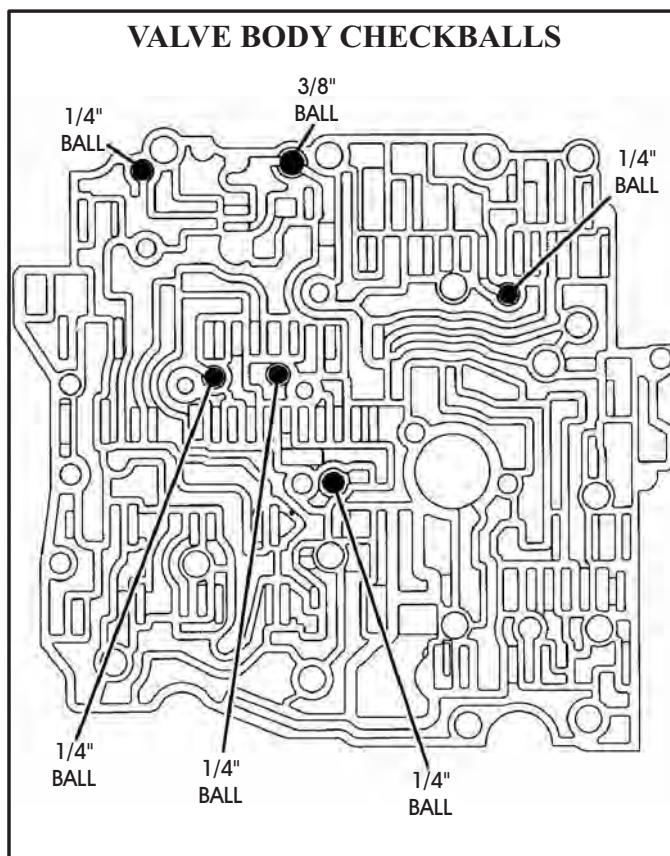

Figure 147
11. Install five (5) 1/4" steel balls and one (1) 3/8" steel ball, in locations shown in Figure 147, and retain with **small** amount of Trans-Jel®.